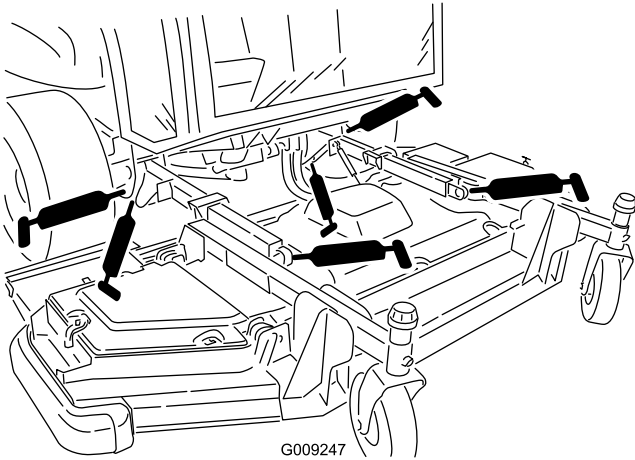

Figure 73
- 2 lift-arm bushings (Figure 73)
- 2 lift-arm-ball joints (Figure 73)
- 2 front deck lift-cylinder pivots (Figure 73)